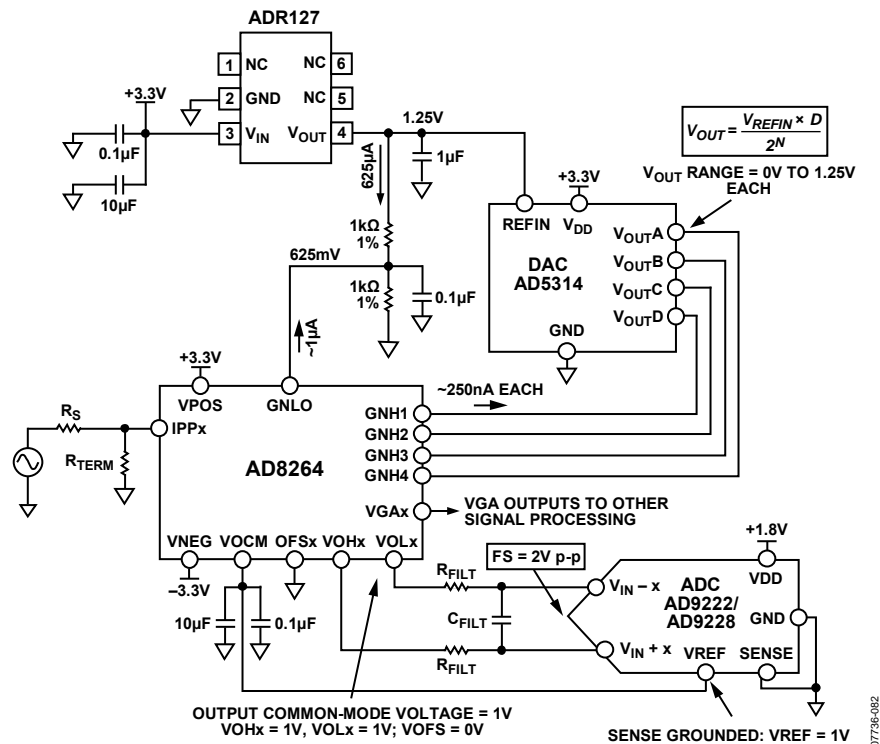
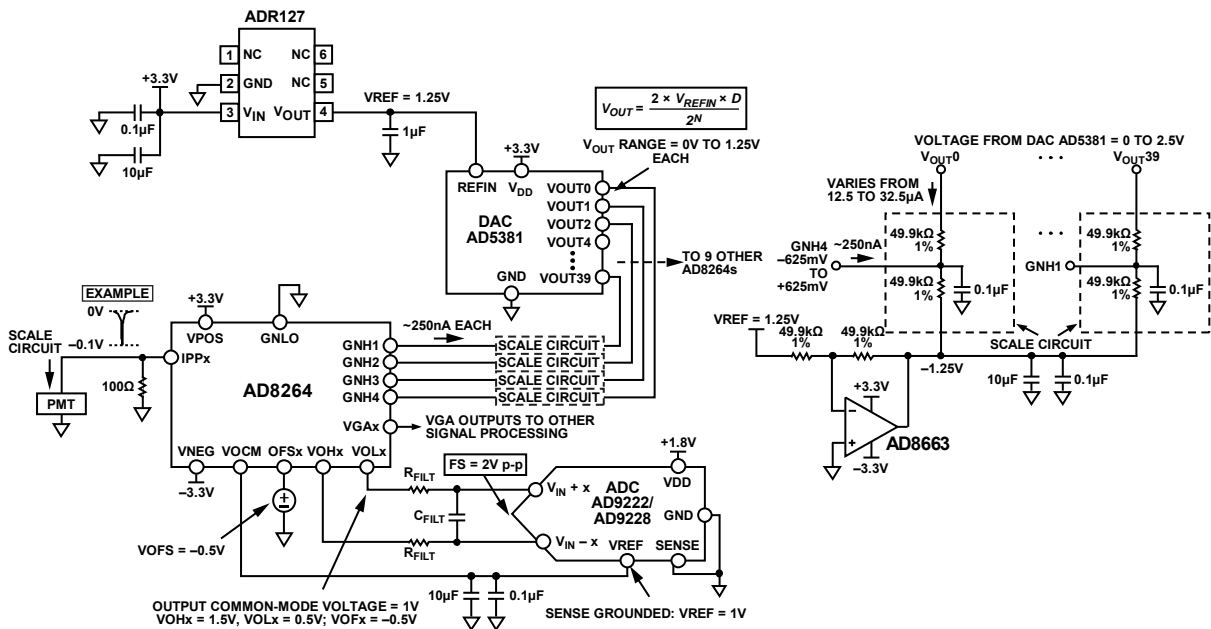

Figure 112. Application Concept of the AD8264 with the AD5314 10-Bit DAC and the AD9222/AD9228 12-Bit ADC
Figure 113. Concept Application of AD8264 with 40-Channel AD5381 12-Bit, 3 V DAC and AD9222/AD9228 12-Bit ADC
The AD8264 is particularly well suited for use in the analog front end of medical PET imaging systems. Figure 112 shows how to use the AD8264 with the AD5314 (a 4-channel, 10-bit DAC) and the AD9222/AD9228 (an octal or quad, 12-bit ADC, respectively). The DAC sets the gain of the AD8264. Note that the full gain span of 24 dB is achieved with this setup because the gain control input range of the AD8264 is very close to 1.25 V. The GNLO pin must offset by 1.25/2 = 625 mV because the gain control input is bipolar around the voltage applied at GNLO. This is done with two 1 kΩ, 1% resistors. The approximately 1 μA of bias current flowing from the GNLO pin does not contribute a significant error because the basic gain error of the AD8264 is the limiting factor.
Figure 112 also includes the DAC output equation, which indicates that the output can vary between 0 V and VREF = 1.25 V.
The single-ended-to-differential amplifier of the AD8264 amplifies the VGA output signal by 6 dB and can provide the required dc bias of the AD9222/AD9228, as shown in Figure 112. The ADC is connected with the default internal reference because the SENSE pin is grounded. With this connection, the AD9222/AD9228 VREF pin is an output that provides 1 V; this is then connected to the VOCM input of the AD8264, which sets the output common-mode voltage of the VOHx and VOLx pins to 1 V. This voltage is very close to the recommended optimal value of VDD/2 = 0.9 V. With this configuration, the ADC inputs are set to a full-scale (FS) of 2 V p-p.
The dc connected concept example in Figure 113 is an application with the 40-channel AD5381, 3 V, 12-bit DAC. The main difference between this example and Figure 112 is that, for the same ADR127 1.25 V reference, the full-scale output of the DAC is from 0 V to  $2 \times V_{REFIN} = 2.5$  V. Two options for gain control include the following:
- Use the same circuit as in Figure 112 but use only half the DAC output voltage from 0 V to 1.25 V. This is the simplest solution, requiring the fewest extra components. Note that the overall gain resolution increases by one bit to 11 bits over the 10-bit AD5314.
- Ground GNLO and scale the DAC output so that the GNHx inputs vary from  $-0.652$  V to  $+0.625$  V. Figure 113 shows a possible circuit implementation using a divider between the DAC output and a  $-1.25$  V reference.
Figure 113 shows how the AD8264 is connected in a PET application. The PMT generates a negative-going current pulse that results in a voltage pulse at the preamplifier input and a differential output pulse on VOLx and VOHx.
A convenient method of verifying and customizing the signal chains shown in Figure 112 and Figure 113 is by ordering the corresponding evaluation boards available on [www.analog.com](http://www.analog.com). The AD8264-EVALZ is a platform through which the user can quickly become familiar with the features and performance capabilities of the AD8264. See the Evaluation Board section for more information.